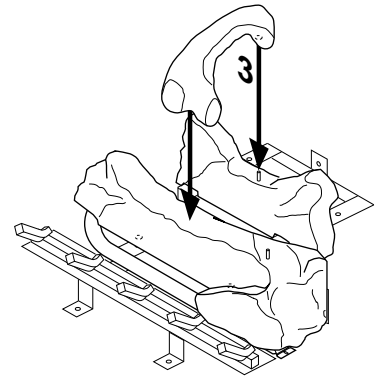

Figure 50 - Installing Log No. 3
3. Place log #3 ("C"-shaped crossover log) onto the rear and front logs. Make sure it is seated properly on the smooth surface on the front log and on the pin on the back log as shown in Figure 50.